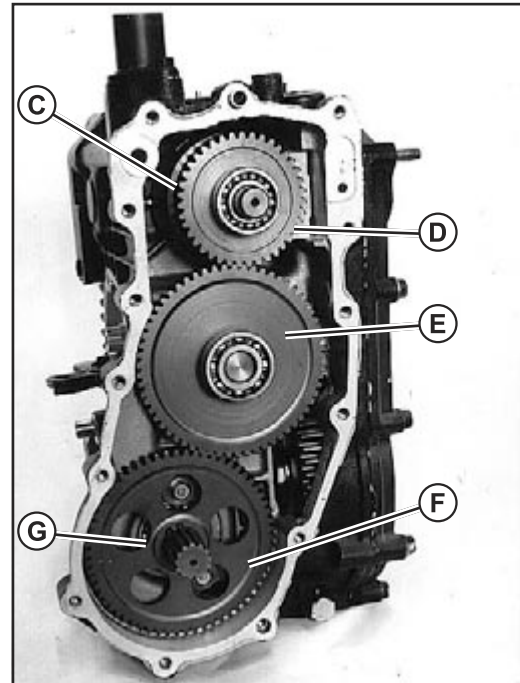
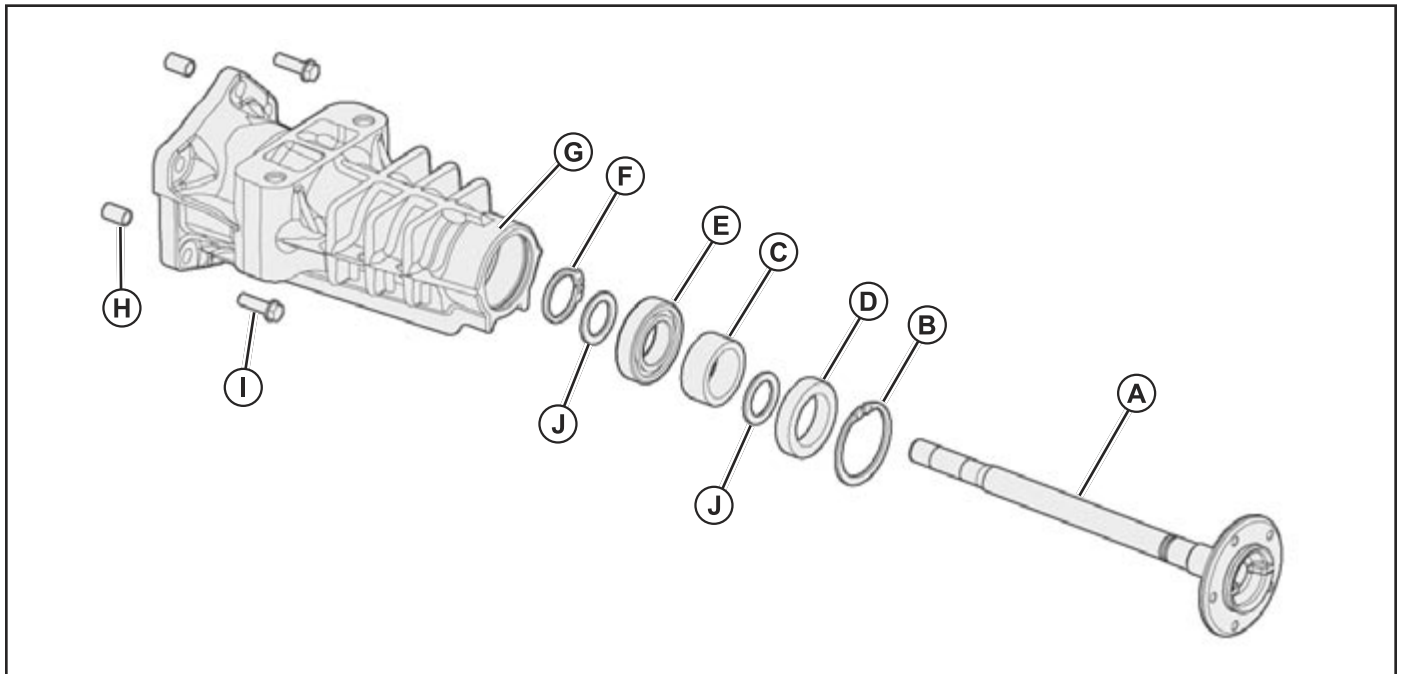

Fig. 72, Without Rear PTO Option, Assembly
Fig. 74, Axle Disassembly
9. Install PTO brake shoe (D) and PTO clutch assembly (C). (See "PTO Brake Removal and Installation" on page 6.) (Fig. 72)
10. Install PTO idler shaft assembly (E), PTO gear (F) (or rear PTO gear on rear PTO option units), and snap ring (G).
13. Install axle housings. (Fig. 74)
1. Remove six cap screws (I) holding axle housing to transaxle housing, and remove axle assembly. (Fig. 74)
1. Remove large snap ring (B) from groove of axle housing (G). (Fig. 74)